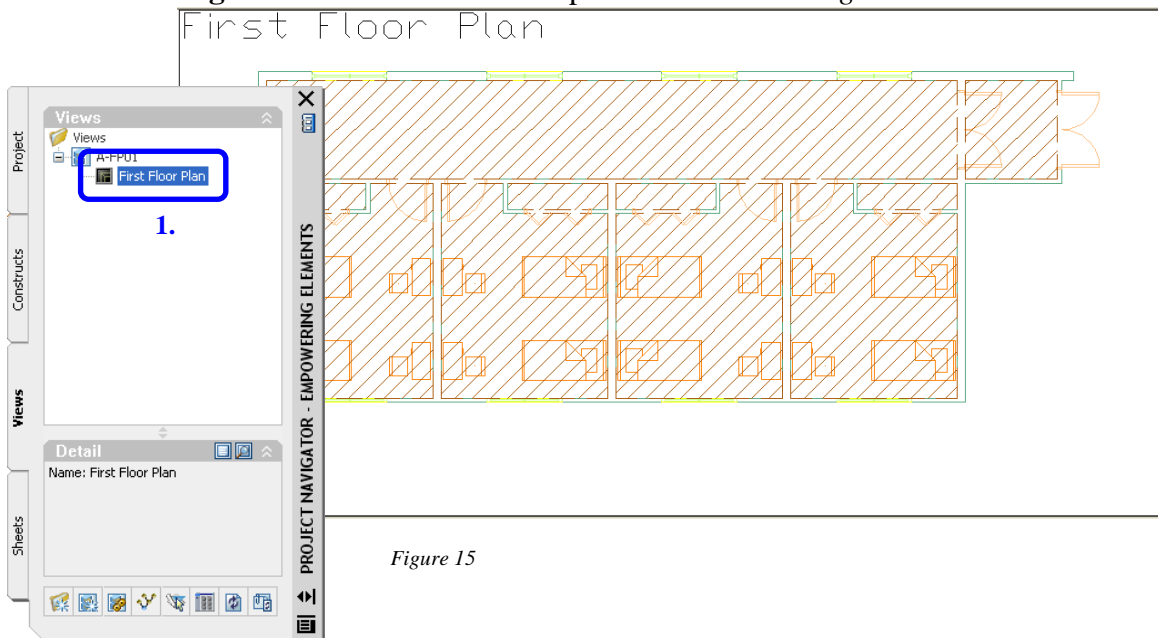

Figure 15
1. Double-click the nested model space view **First Floor Plan** in the **Project Navigator** to open it. This will display a temporary window indicating the name and boundary of the viewport. This will also set the **Annotation Scale** on the **Drawing Status Bar** to the model space view's scale. *Figure 15*